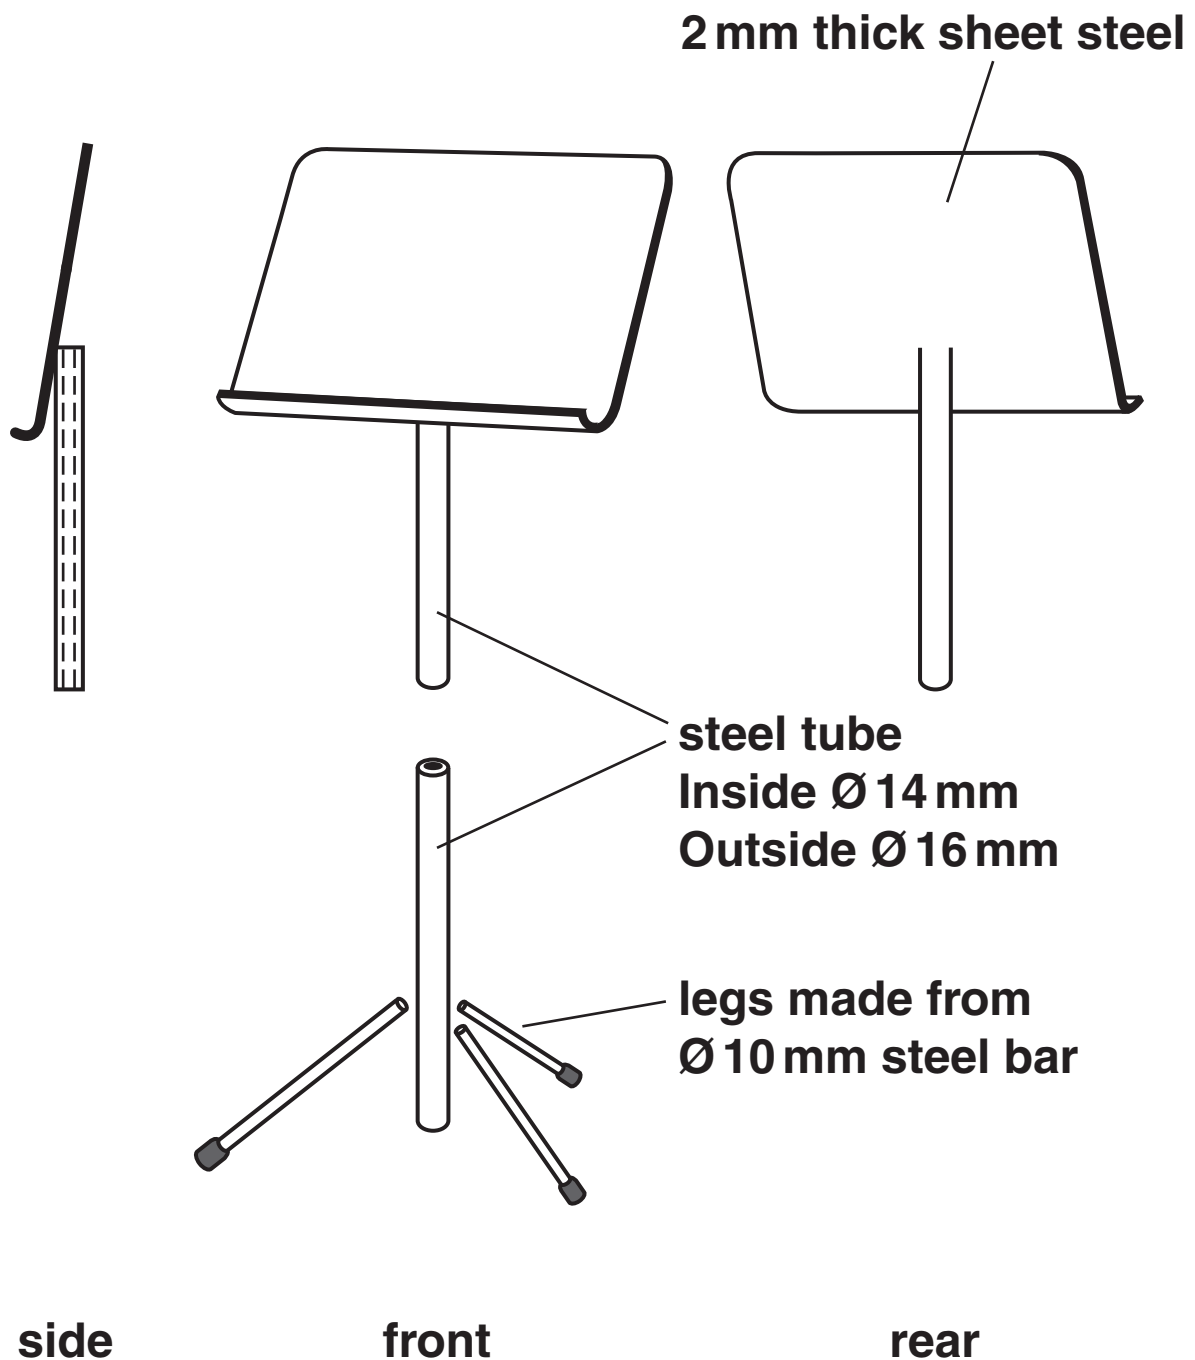

Fig. 6
- 5 Fig. 6 shows an incomplete design for a music stand. The music stand is made of mild steel. There is NO welding or brazing equipment available for its manufacture.